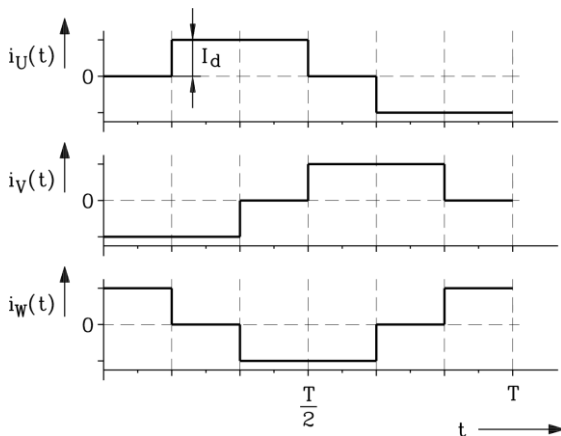
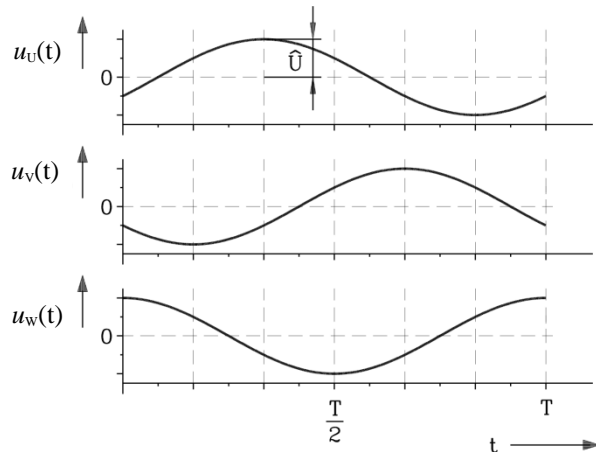

Fig 26.1: Phase currents function of time
Fig. 26.2: Phase voltages function of time
A synchronous motor used in a petrochemical factory is supplied by a current-source inverter. The phase currents in the stator winding and the phase voltages are given in Fig. 26.1 and Fig. 26.2 respectively.
- 1) With which power factor is the motor operated (see Fig. 26.1 and 26.2)?